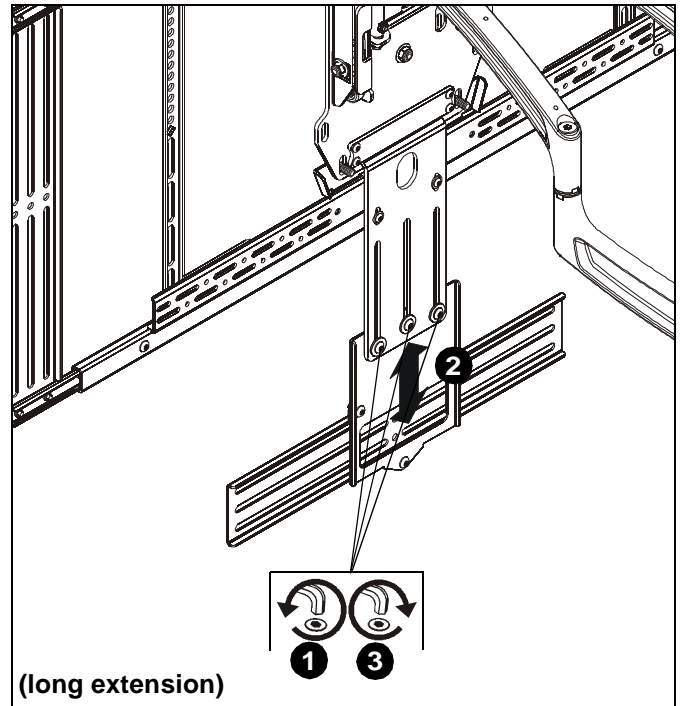
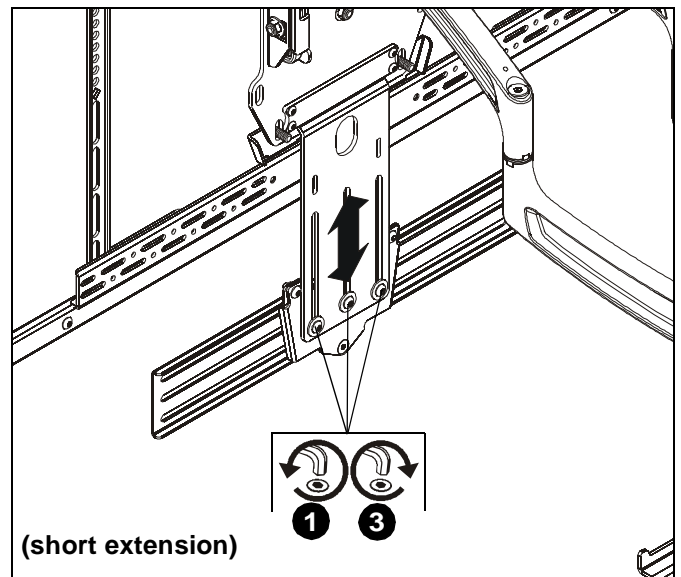

Figure 11
Figure 12
1. Loosen three 1/4-20 x 3/8" button head cap screws (E) holding extension bracket (C or D) to attachment bracket (A). (See Figure 11)
2. Adjust height of center speaker bracket (B) as desired. (See Figure 11)
3. Tighten three three 1/4-20 x 3/8" button head cap screws (E) holding extension bracket (C or D) to attachment bracket (A). (See Figure 11) or (See Figure 12)